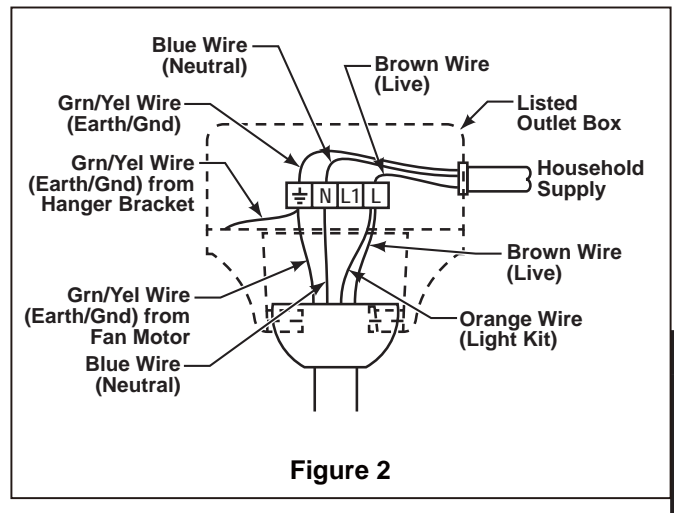

Figure 2
2. Securely connect the blue fan motor wire to the blue supply (neutral) wire using wire connector supplied. Securely connect the brown fan motor wire and orange wire to the live supply (normally black but marked as a live supply with red sleeving) (Figure 2). Make sure all connections are secure.